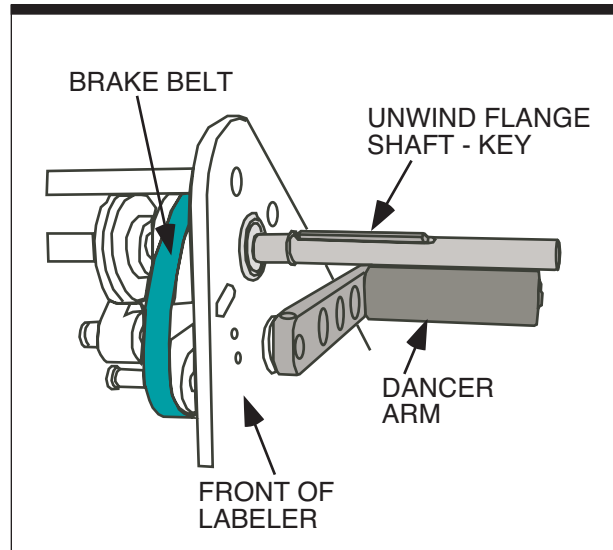

Figure 4-28 . Unwind Flange Shaft Key
- Step 33.** Remove the unwind assembly (front of labeler) by unscrewing the knob until the extrusions comes off the shaft. There is a key on the shaft of the unwind flange - set it aside (see Figure 4-28).